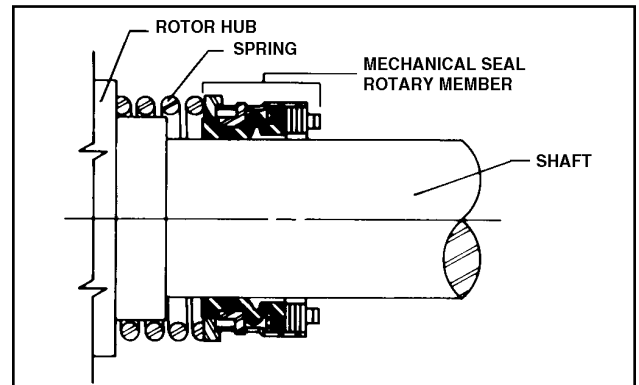

Figure 33
5. Place seal spring on shaft against rotor hub. Refer to Figure 33.